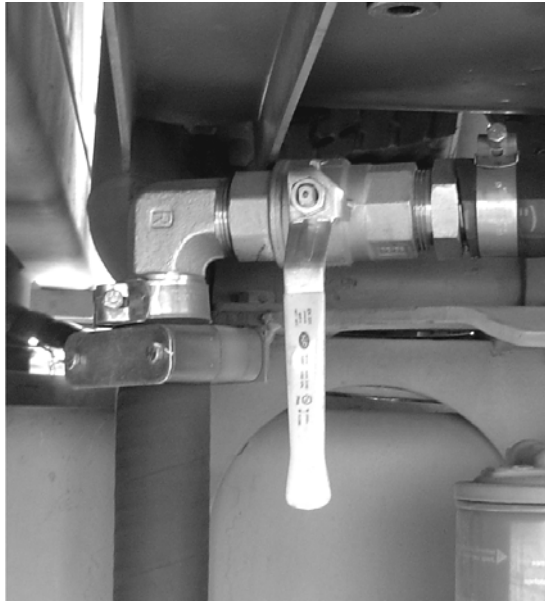

Figure 1 Supply Valve in Closed Position
- a. Close supply valve located beneath the reservoir (see Figure 1).